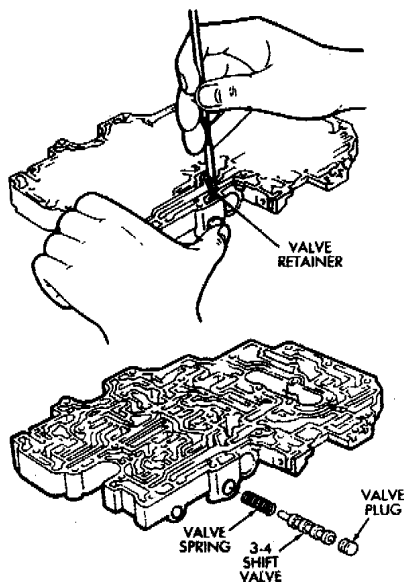
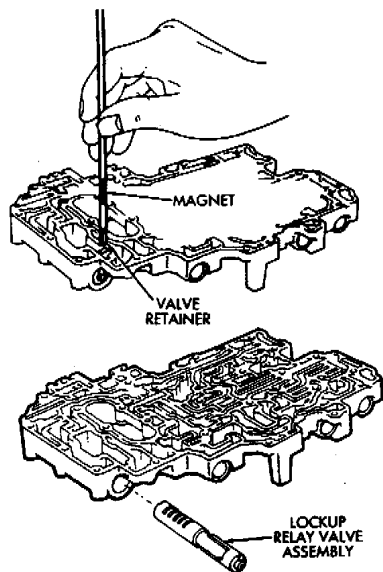

Fig. 6 Removing/Installing 3-4 Shift Valve
Fig. 8 Removing/Installing Lockup Relay Valve
(6) Remove 3-4 shift valve retainer with magnet and remove valve plug, spring and 3-4 shift valve (Fig. 6).
(7) Remove second coast modulator valve retainer and remove valve plug, spring and valve.
(8) Remove lock-up relay valve retainer and remove relay valve and sleeve assembly (Fig. 8).
(8) Install assembled lock-up relay valve in valve bore and install retainer (Fig. 8).